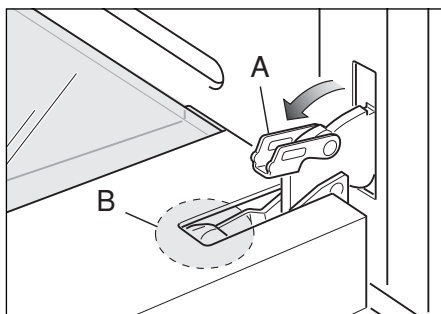
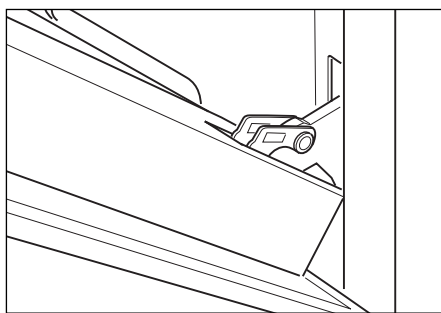

Fig. 40b
Fig. 40c
- Fully open the lever "A" on the left and right hinges (Fig. 40b).
- Gently close the door (Fig. 40c) until the left and right hinges are hooked to part "B" of the door (Fig. 40b).